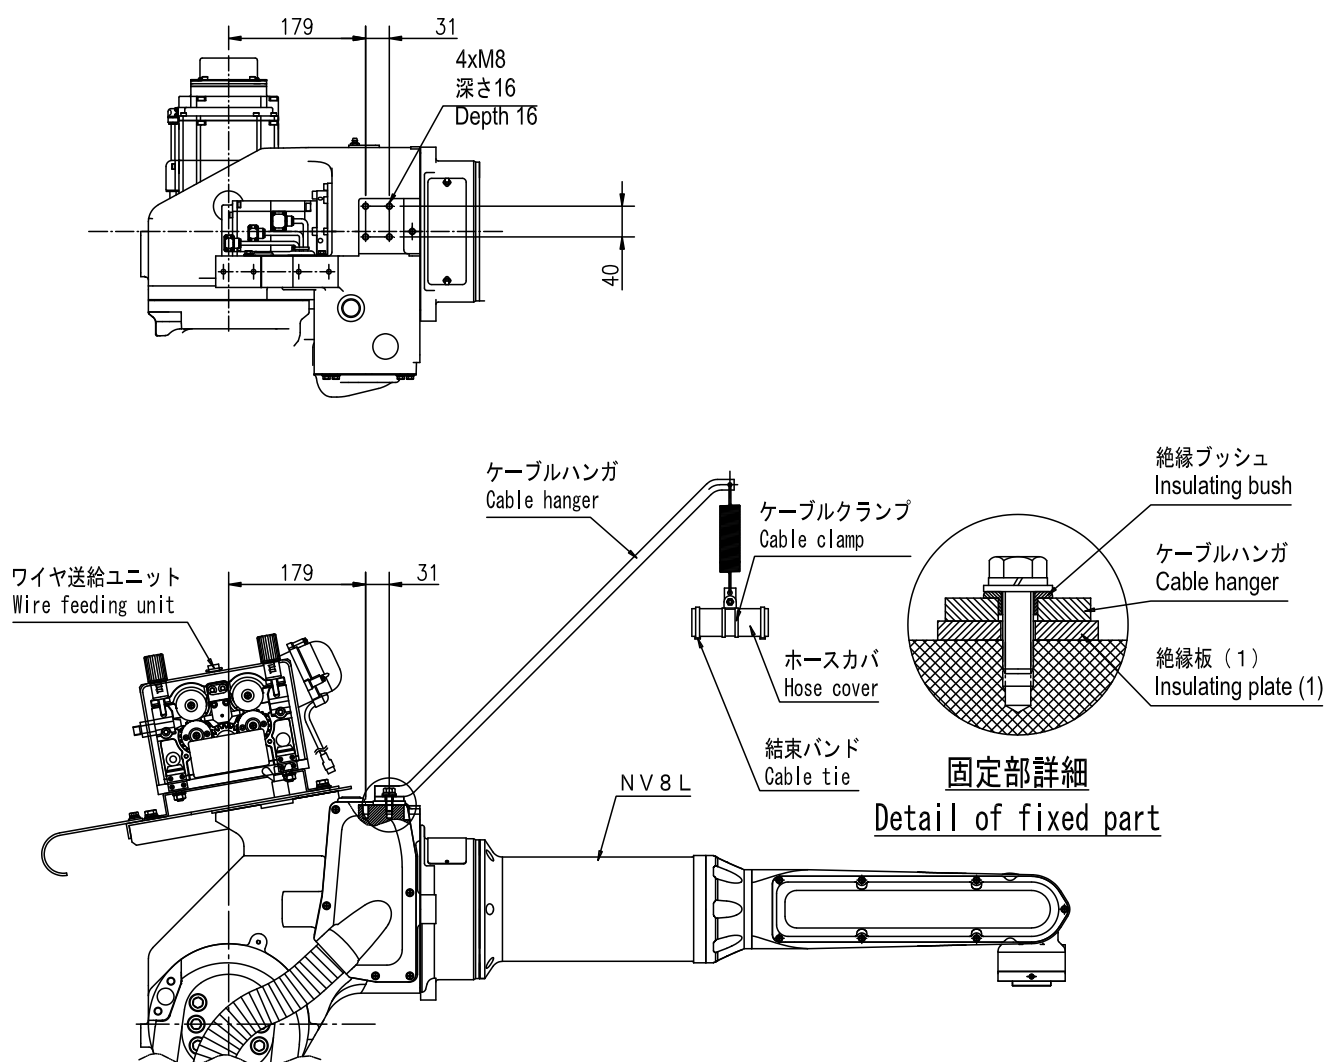

Fig.4.21 Connecting the cable hanger (NV6L / NV6LS / NV8L)
- (1) Attach the cable hanger to the manipulator, referring to Fig.4.21. Insulate the manipulator and the cable hanger by using the supplied insulating plate (1), insulating bush.
- (2) Mount the included hose cover from above the coaxial power cable and lower it under the cable hanger with the cable clamp. Refer to Fig.4.21 and attach the cable clamp at the position where the spring is vertically downward in the manipulator basic position. Tighten both ends of the hose cover with a cable-tie.
Note) When clamping on the torch side, even if the J5 and J6 axis link soft limit is within the range, the coaxial power cable and the manipulator may interfere with each other, so fix them at the position shown in the Fig.4.21.